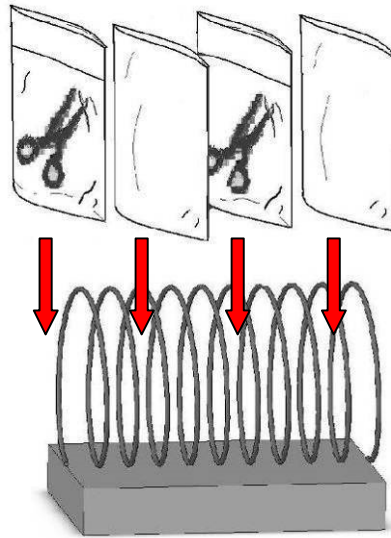
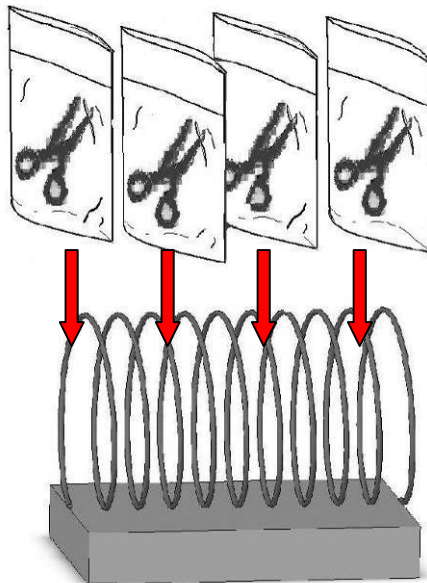

Figure 170
Figure 171
**WARNING:** We suggest using Spring Holder for items with sterilizing pouches to assure sterilization result. Follow Figure 170 or Figure 171 to place each pouch separately. Spring holder is available as an optional accessory.